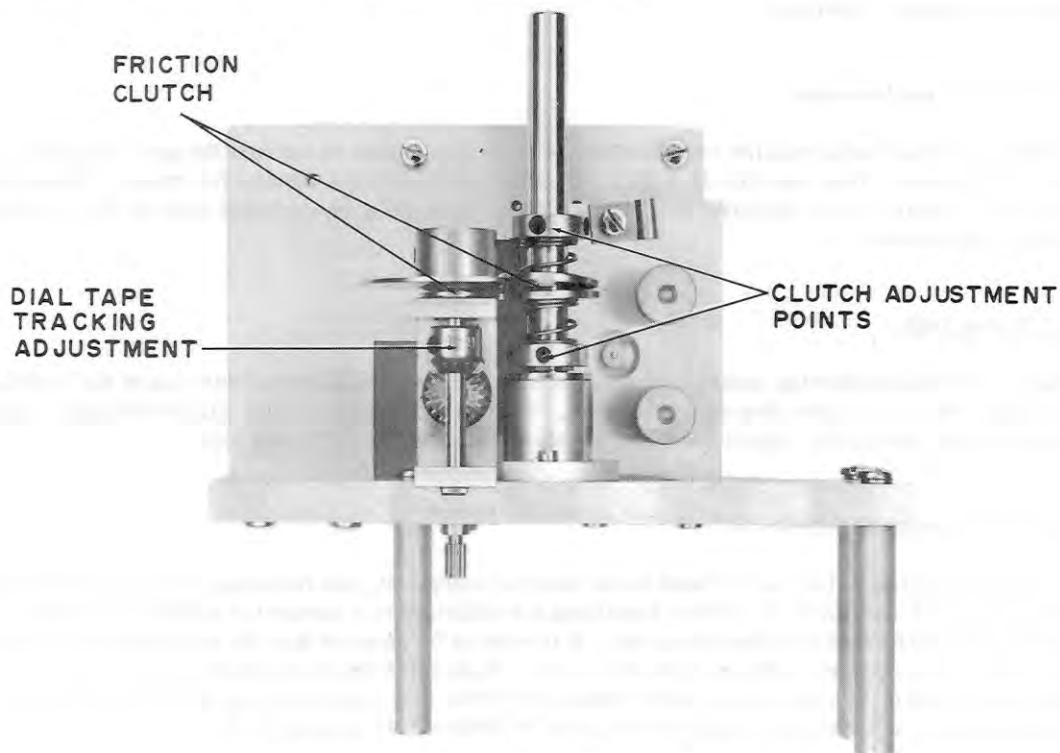

Figure 5-4. Typical Gear Train Clutch Adjustment Points.
- (1) Refer to Figure 5-4 and locate the clutch adjustment points on the gear train.
- (2) Loosen the two set screws in both retaining collars.